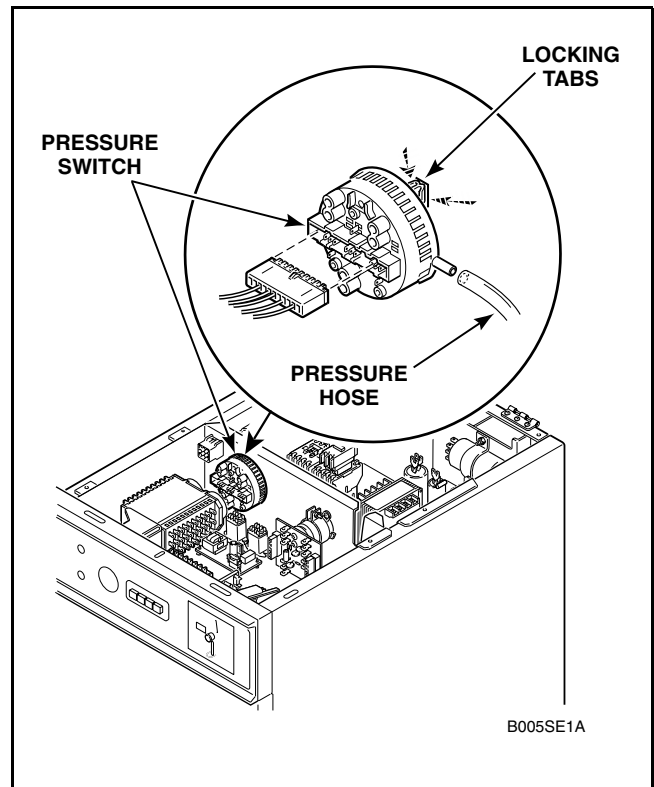

Figure 5
- d. Press in on locking tabs at back of switch and pull switch out to remove it from control box, refer to *Figure 5*.